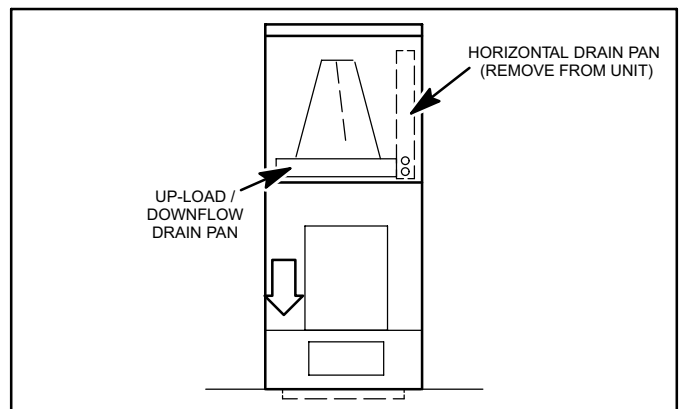

Figure 6. Downflow Discharge Position
2. For best efficiency and air flow, remove the horizontal drain pan from the units in downflow positions as illustrated in figure 6 on page 6.
3. Rotate cabinet 180° from the upright position. See figure 6. You may need to first remove the blower assembly to lighten the cabinet for lifting.